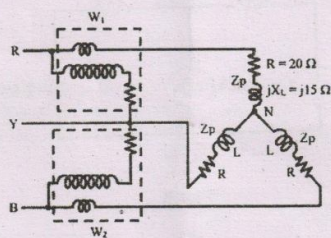

Fig. 6
16. (a) Calculate the readings of the two wattmeters (W_1 and W_2) connected to measure the total power for a balanced star-connected load shown in Fig. 6, fed from a three-phase, 400 V balanced supply with phase sequence as R-Y-B. The load impedance per phase is $20+j15$. Also find the line and phase currents, power factor, total power, total reactive VA and total VA.